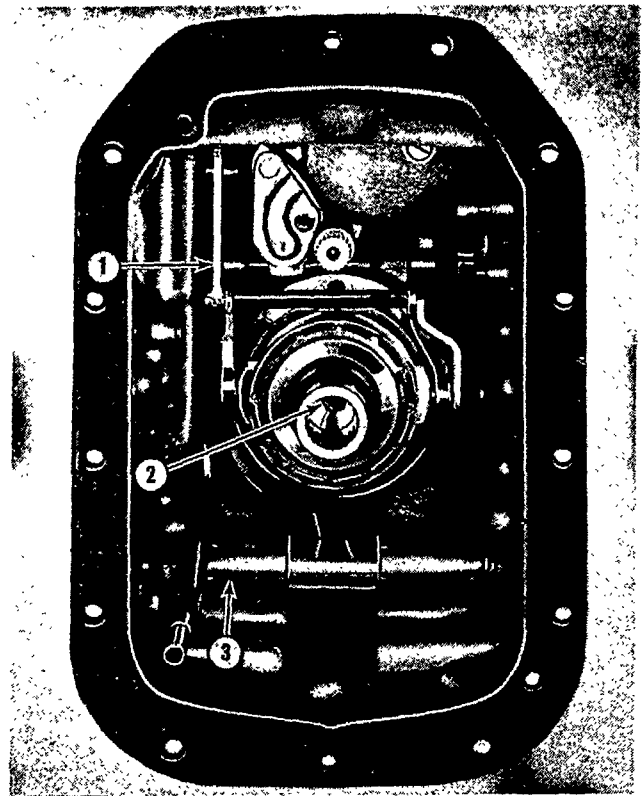

Figure 26
1. **Manual Transmission:** Install the Load Monitor unit on the pinion shaft, securing it with the bolt previously removed and a new washer. Refer to Figure 26.